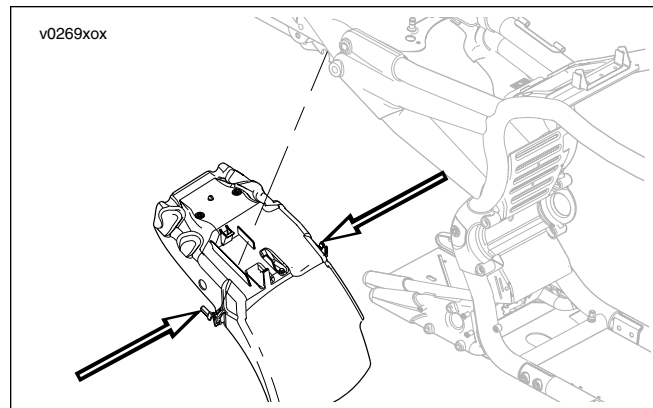

Figure 2-180. Inner Fender Locking Tabs
6. See Figure 2-180. Remove inner fender by first removing two rear ECM mounting bolts, and then gently pulling outward on locking tabs on sides of fender. Inner fender will drop down once released.